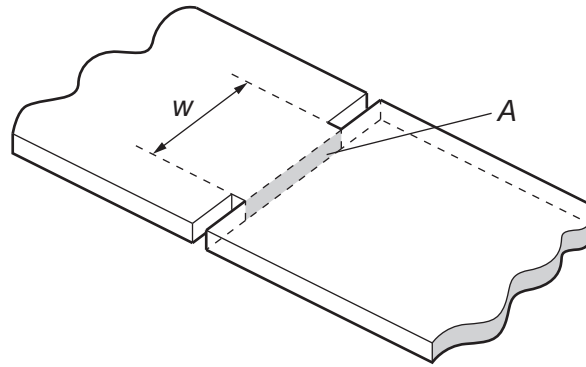

Fig. 2.2
- (c) The cross-sectional area  $A$  of the strip between the cuts is shown in Fig. 2.2.